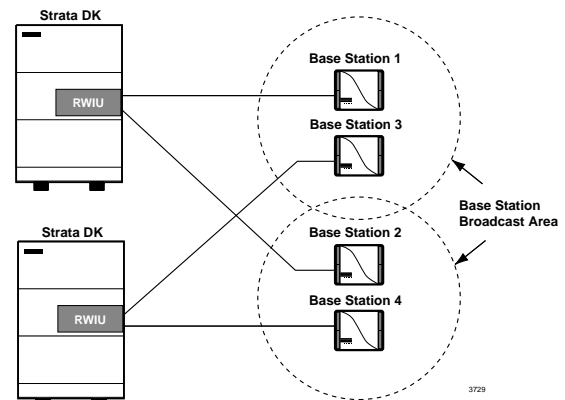

Figure 16-9 Multiple Overlapping Systems
- ◆ Multiple overlapping systems (see Figure 16-9).